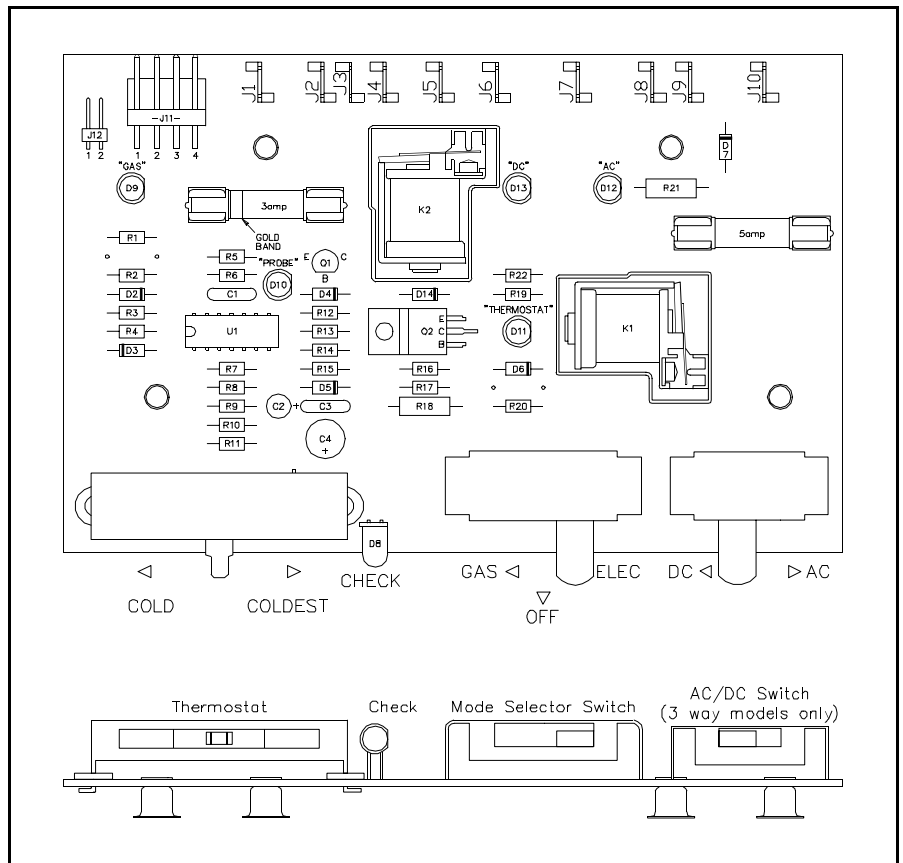

Figure 4.51 PC Board
2. Set Thermostat to the mid-range position or higher to ignore it is calling for cooling See Figure 4.51.